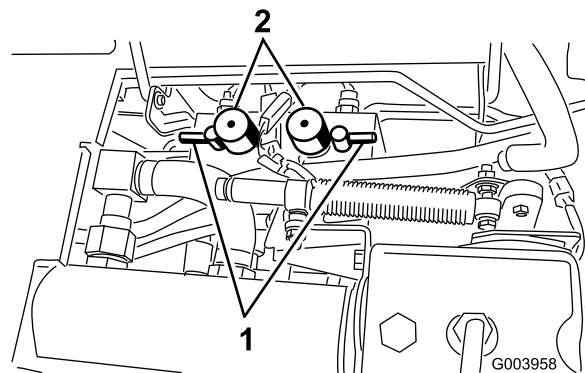

Figure 83
5. Set both reel speed controls to position 1 (Figure 83).
6. Select either front, rear or both backlap levers to determine which units to backlap (Figure 83).